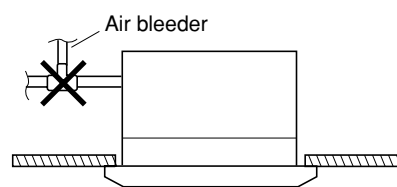

Fig. 3-12
- Do not install an air bleeder as this may cause water to spray from the drain pipe outlet. (Fig. 3-12)